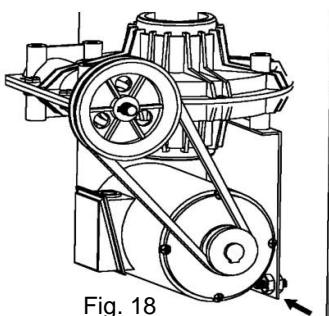

Fig. 18
- Check the drive belt tension every 6 months. (Fig. 18).